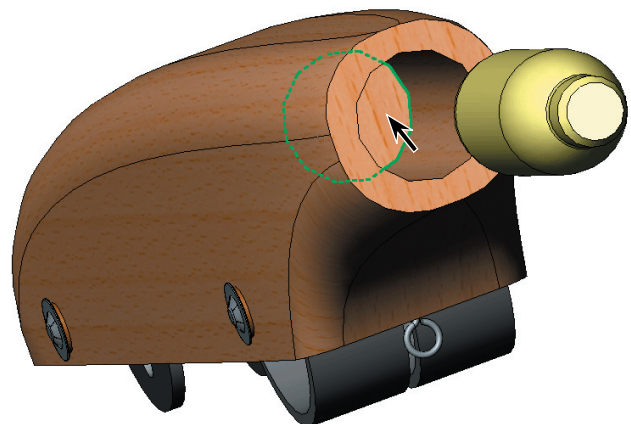

Fig. 25
Step 5. Click **bottom face of the cartridge hole**, Fig. 25.